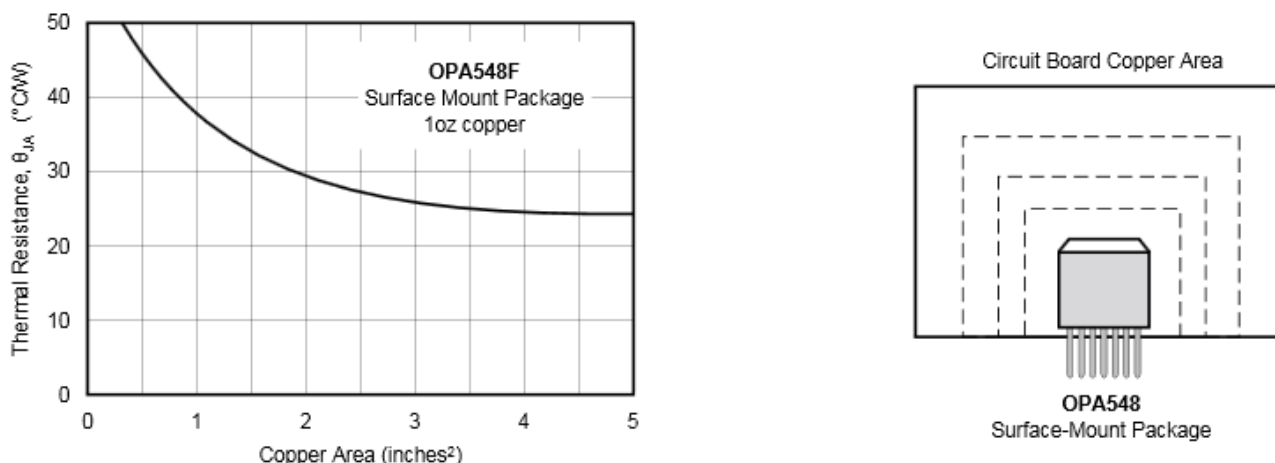

Figure 43. DPAK Thermal Resistance vs Circuit Board Copper Area
For best thermal performance, the tab of the DDPAK surface-mount version should be soldered directly to a circuit board copper area. Increasing the copper area improves heat dissipation. See Figure 43 for typical thermal resistance from junction-to-ambient as a function of the copper area.
- (1) For improved thermal performance, increase footprint area. See Figure 43.
- (2) Mean dimensions in inches. Refer to the mechanical drawings or www.ti.com for tolerances and detailed package drawings.